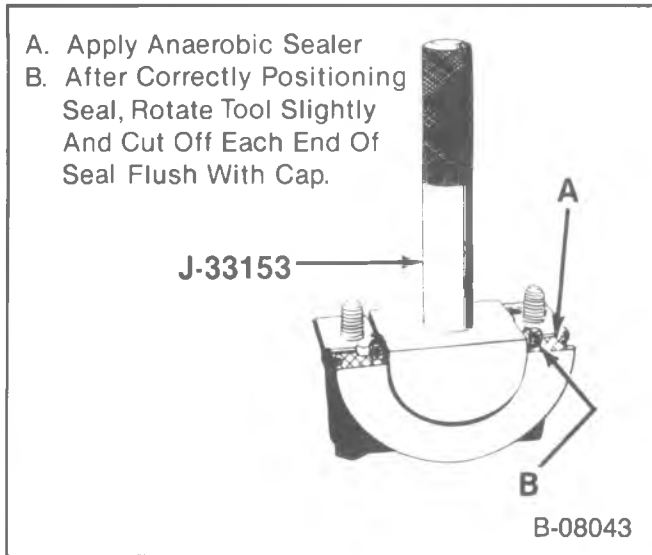

Figure 24—Installing the Lower Rope Seal Piece
- Use J-33153 to install the seal (figure 24).
- After correctly positioning the seal, rotate J-33153 slightly and cut the seal ends flush with the bearing cap surface. Use a sharp tool (figure 24).